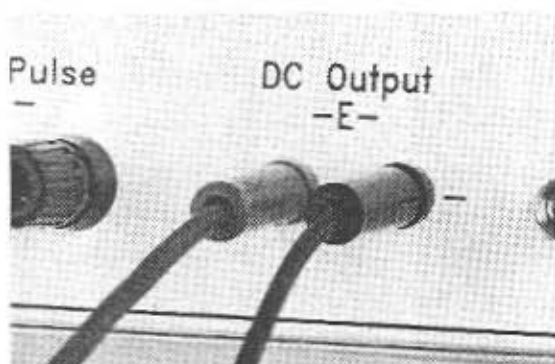

FIGURE 6. PLATING CABLE CONNECTION
- attach the Plating Cables to black and red Plate Pulse DC Outputs (refer to Figure 6). (NOTE: For reversed polarity connect red to black and black to red),